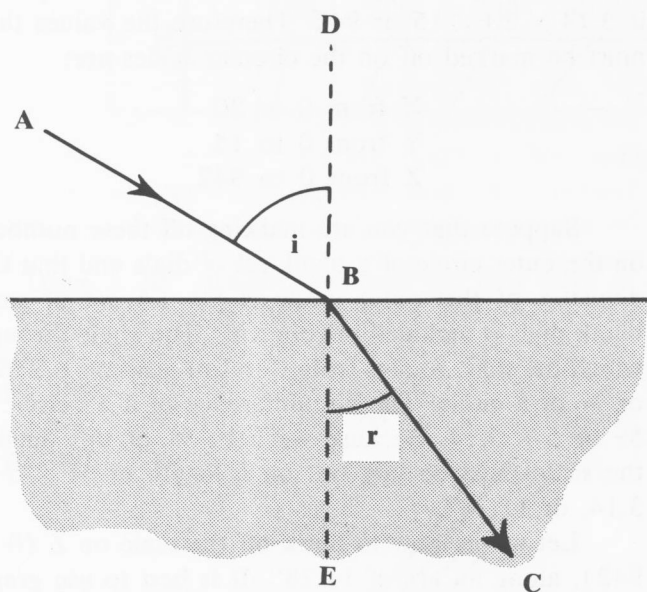

Fig. 32
Fig. 32 shows a light ray moving in the direction AB. It strikes a transparent surface, such as glass or water (indicated by the darker area in Fig. 32). The ray bends and takes a new direction (BC) inside the new material.
In this formula, i stands for the *angle of incidence* as the light ray strikes a transparent material from air (Fig. 32), r stands for the *angle of refraction* and n represents the *index of refraction*, a number which is different for different materials. Some typical values of the *index of refraction* are indicated in Table I.